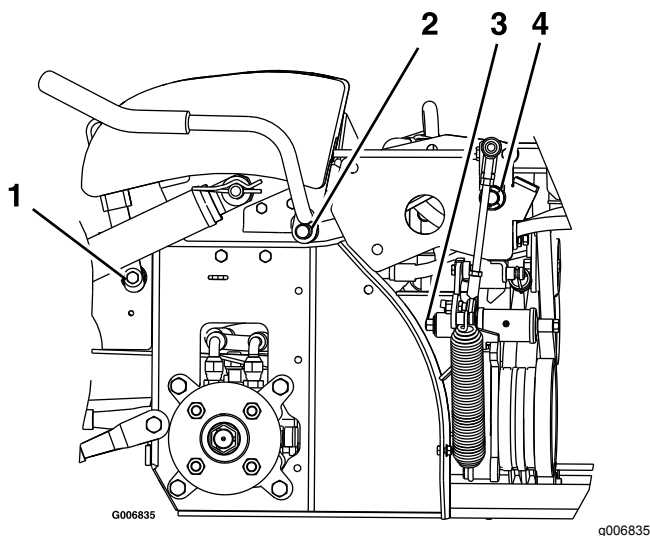

Figure 31
3. Lubricate the bronze bushings on the brake-handle pivot with a spray type lubricant or light oil (Figure 31).